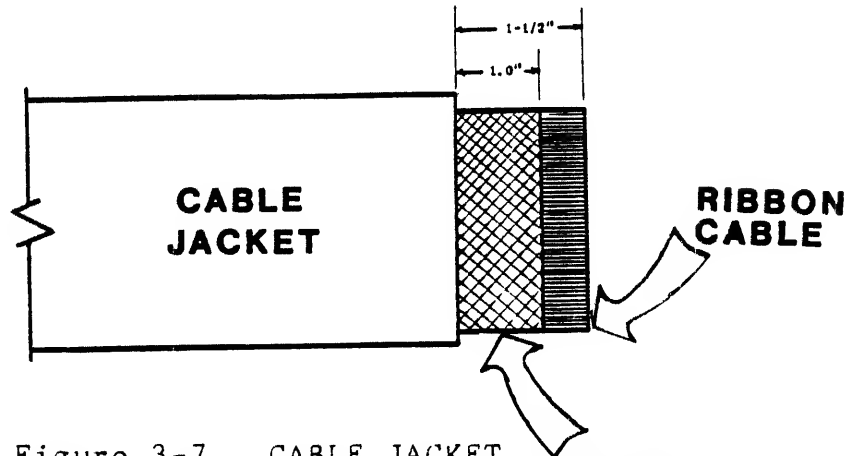

Figure 3-7. CABLE JACKET
1. Remove approximately 1-1/2 inches of the cable jacket on the transport end of the I/O cables (Refer to Figure 3-7).